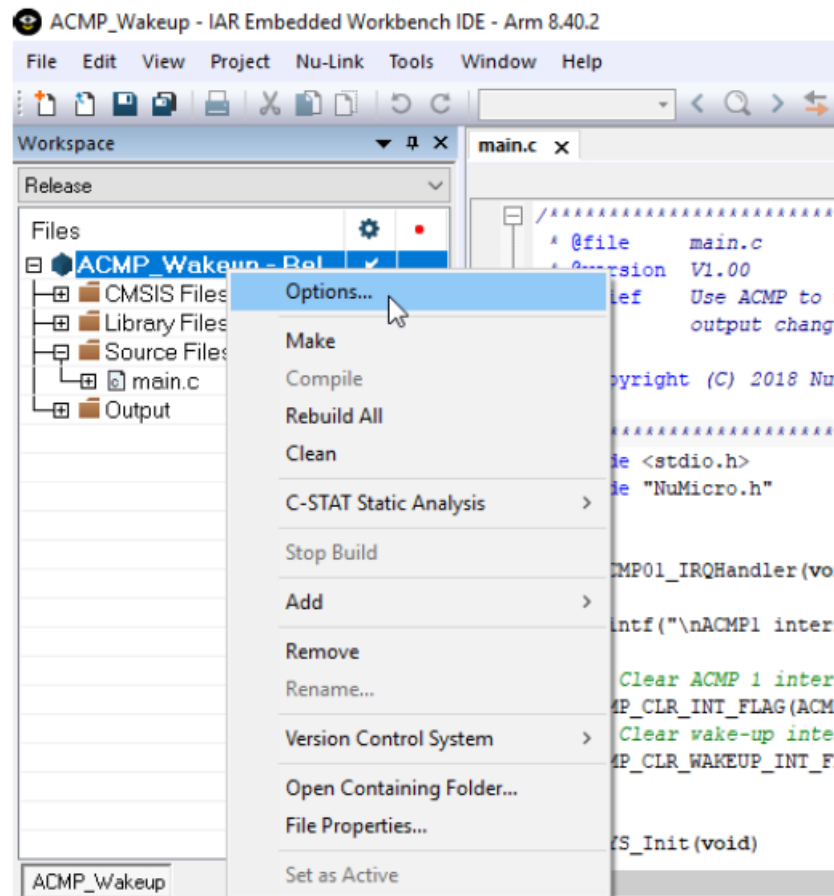
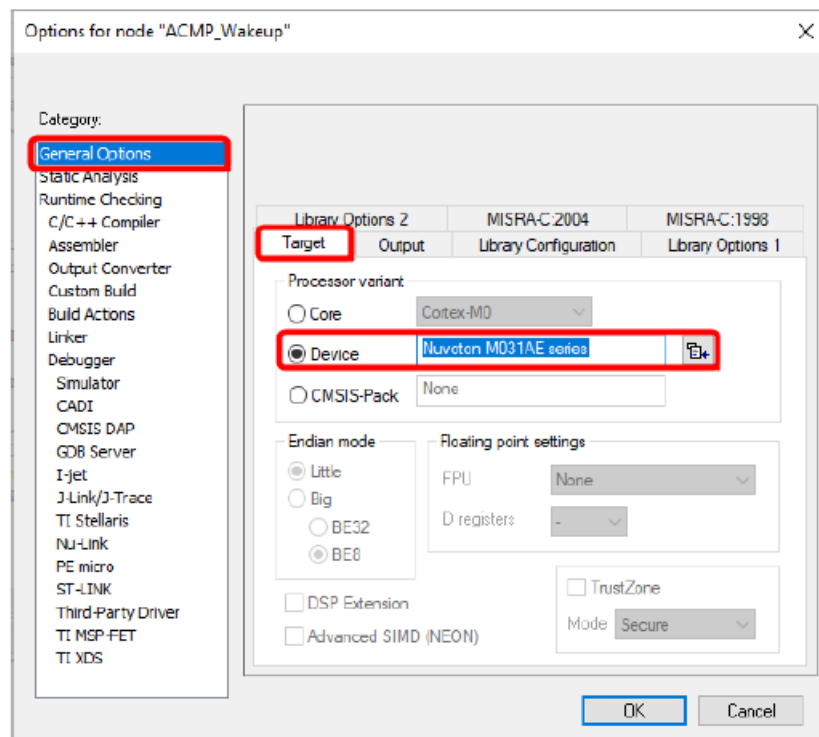

Figure 4-14 Options Selection
Figure 4-15 IAR EWARM Target Chip Selection
Step 3: In the Target tab of the General Options page (through invoking Project → Options), click the button in the right of the Device option (make sure the Device option is enabled), and select “Nuvoton → Nuvoton M031AE series” as the target chip (M031AE series is this case), as shown in Figure 4-14 and Figure 4-15.